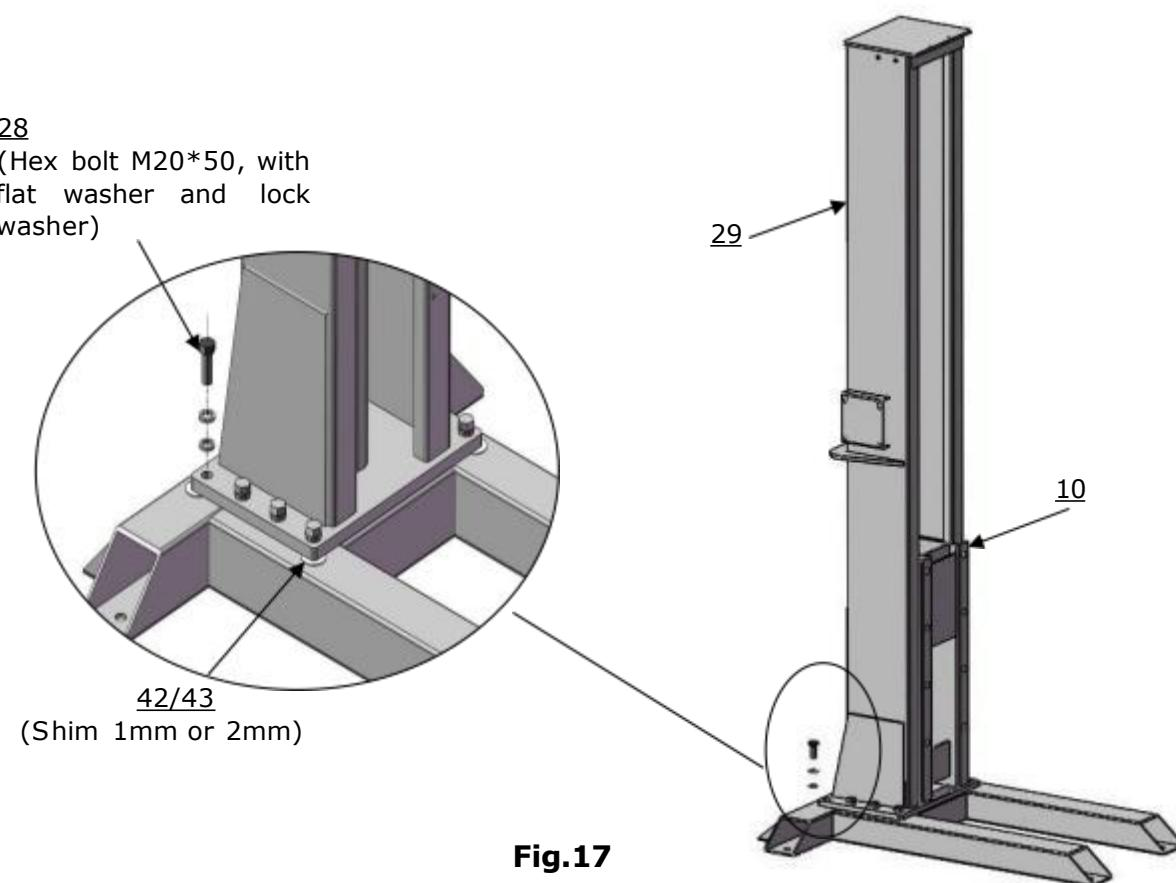

Fig.17
3. Position the column onto the base, align the mounting holes, and install with bolts. Check the column plumbness with level bar, adjust with shims if necessary.. (See Fig.17)